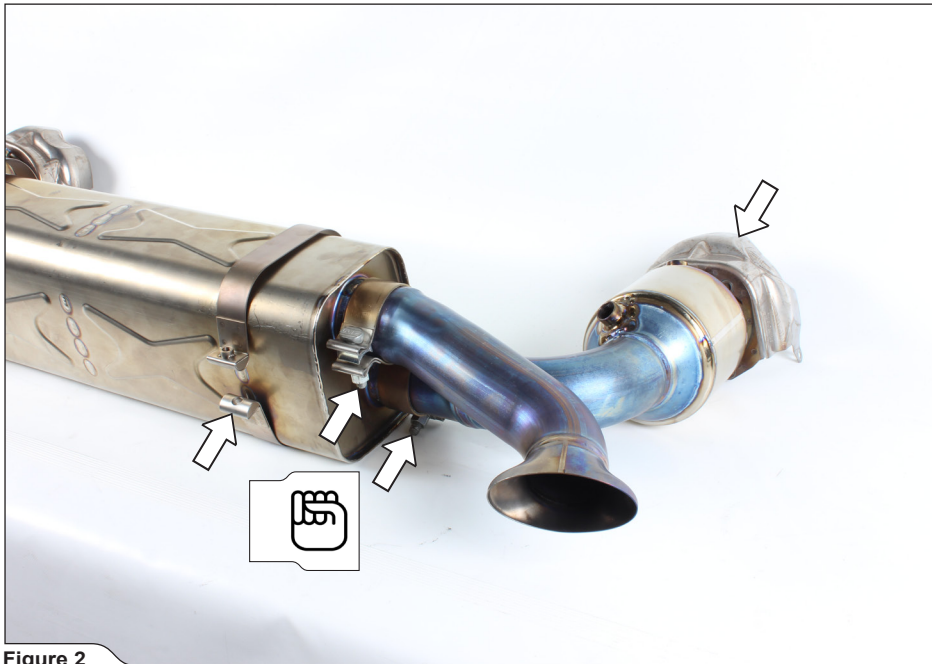

Figure 2
- (Link Pipe Set with catalytic converters: Figure 2)